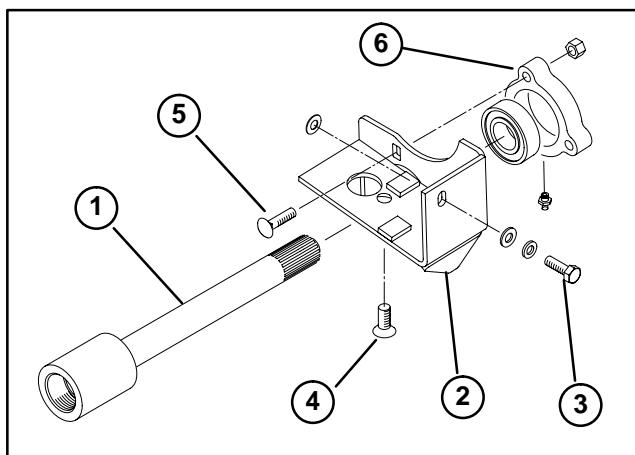

Figure 8
- B. Slide traction shaft through bearing bracket, aligning the (2) bearing bracket mounting holes with the holes in side and bottom of hydrostatic (Fig. 8).
- C. Mount side of bracket to hydrostat with a capscrew, lockwasher, flat washer and 1 or 2 shims (Fig. 8).